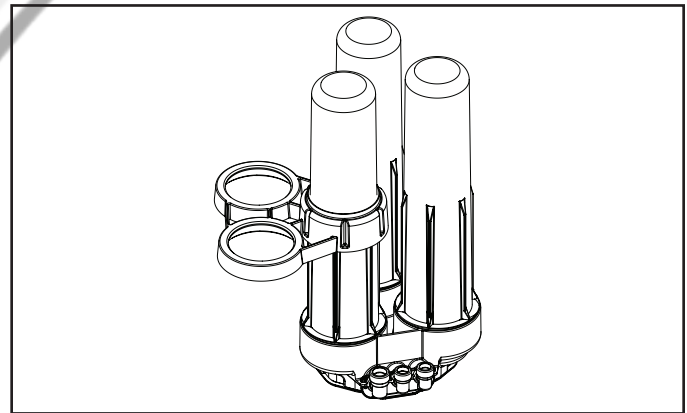

Figure 13
5. Remove the support leg from the three sumps and unscrew the top sump as shown to access the prefilter element. The support leg functions as a wrench to loosen the sump, Figure 13.
- d. Securely insert O-ring end of elements into manifold. See Figure 13.